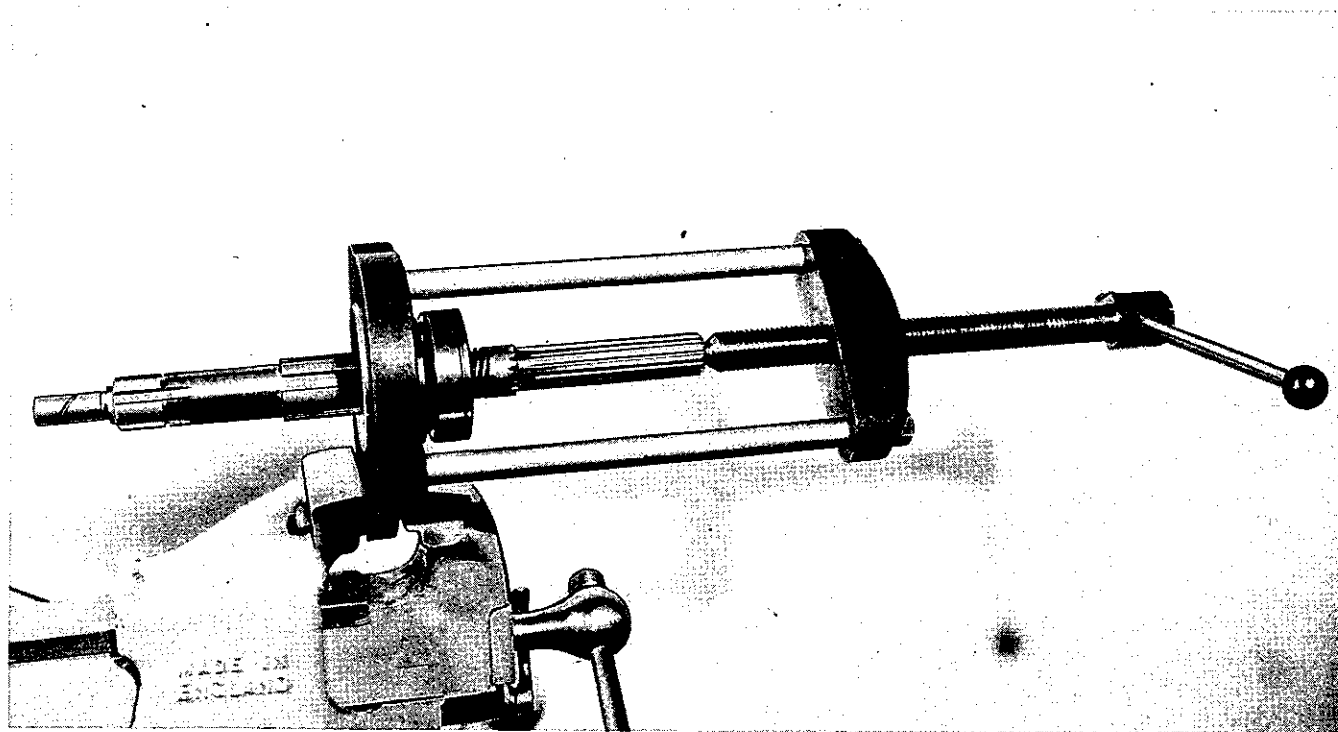

Fig. 11. Extracting mainshaft race.—Tool No. 20SM-4615
15. Extract mainshaft race, as shown in Fig. 11, after the withdrawal of the small seeger circlip and thrust washer which locates the ball race on the shaft.